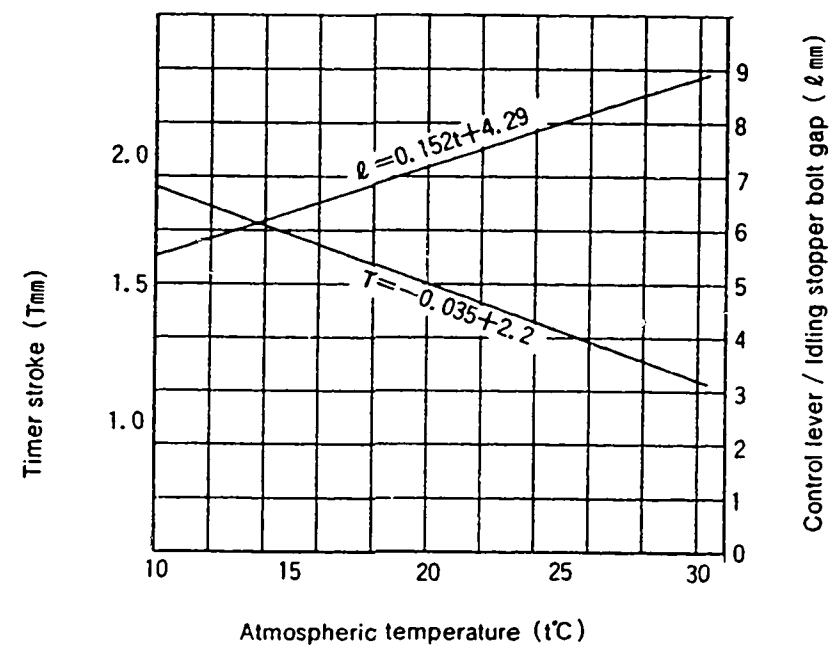

Fig. 2
- ① Using the graph (Fig 2) , determine the Timer Stroke according to the atmospheric temperature at the time of adjustment.
- ② Adjust using the Timer Stroke adjusting bolt so that the Timer Stroke corresponds to the value determined in note ① above.
- ② From Fig 2 determine the dimension of the gap between the idling lever pin and the control lever according to the atmospheric temperature at the time of adjustment.
- ③ Adjust using the fast idle adjusting screw so that the gap corresponds to the value determined in note 2) ② above.